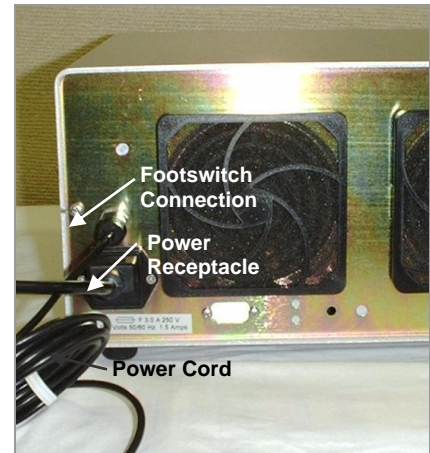

Figure 4. Cable Connection, *BlueWave 50* Rear Panel
2. Connect the Footswitch to the Footswitch Connection (Figure 4) in the rear of the unit.